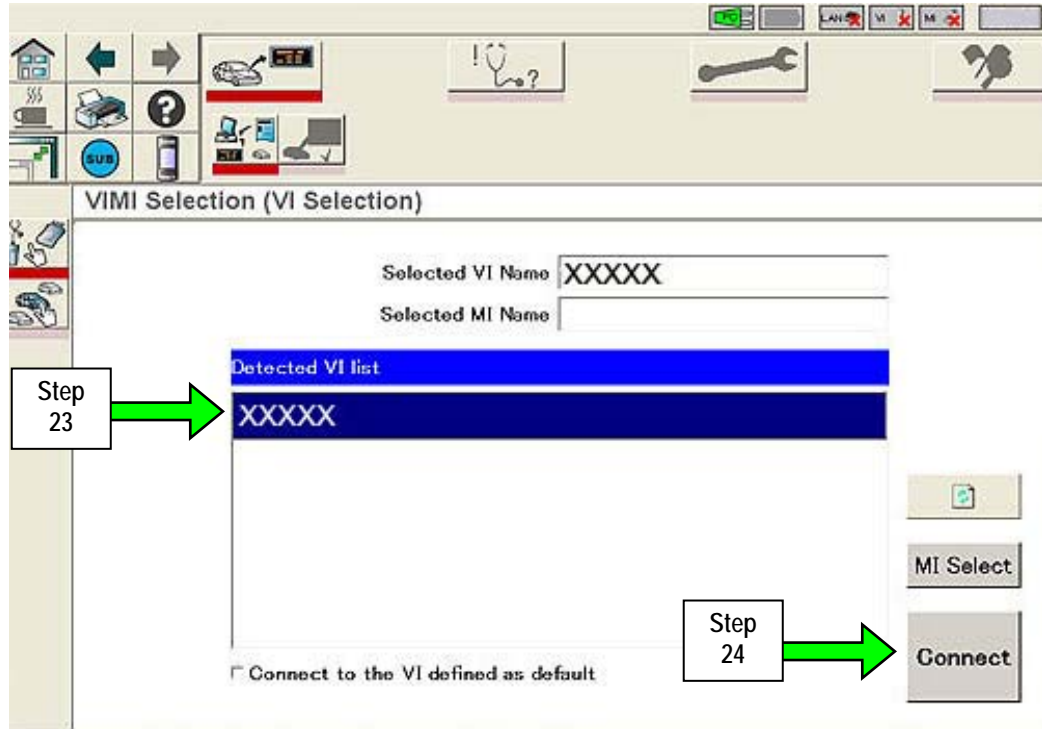

Figure 10
23. Select the detected VI from the list. (See Figure 10.)